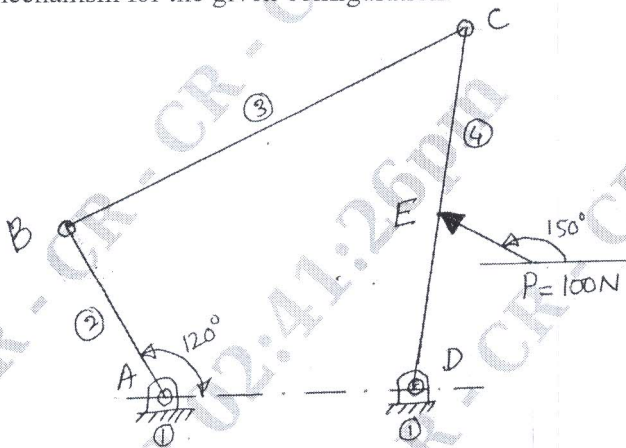

Fig.Q1(b)
- b. A four-link mechanism with the following dimensions is acted upon by a force 100 N $\angle 150^\circ$ N on the link DC [Fig.Q1(b)]. AD = 500 mm, AB = 400 mm, BC = 900 mm and DC = 750 mm, DE = 350 mm. Determine the input torque T on the link AB for the static equilibrium of the mechanism for the given configuration.